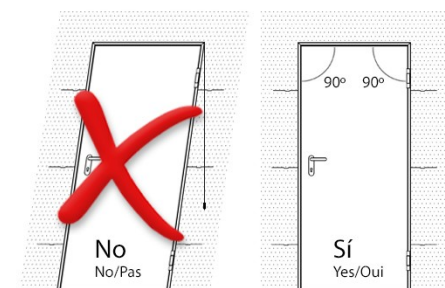

Fig. 2
- > With the leaf closed and without removing the protection elements, place the door inside the gap. For a correct functioning, the door must be flat and square, and well set. Fig. 2.